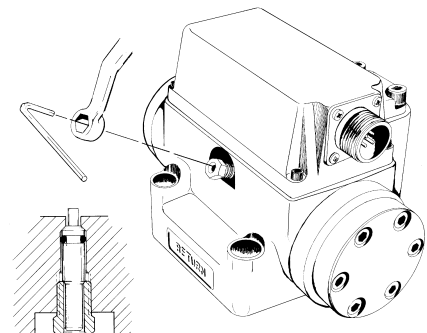

Figure 2
It is often desirable to adjust the flow null of a servovalve independent of other system parameters. The "mechanical null adjustment" on the Moog (G)72K Series servovalve allows at least $\pm 20\%$ adjustment of flow null. The "mechanical null adjustor" is an eccentric bushing retainer pin, located above the port designation on the valve body (see Figure 2) which, when rotated, provides control of the bushing position. Mechanical feedback elements position the spool relative to the valve body for a given input signal. Therefore, a movement of the bushing relative to the body changes the flow null.